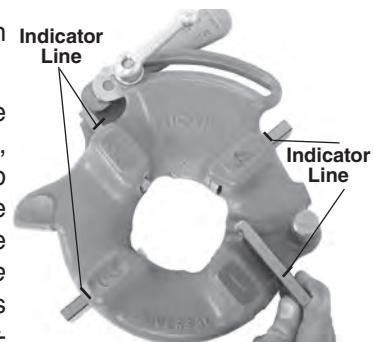

Figure 7 – Inserting Dies
6. Insert appropriate dies into the die head, numbered edge up until the indicator line is flush with the edge of the die head (see Figure 7). Numbers on the dies must correspond with those on the die head slots. Always change dies as sets – do not mix dies from different sets.